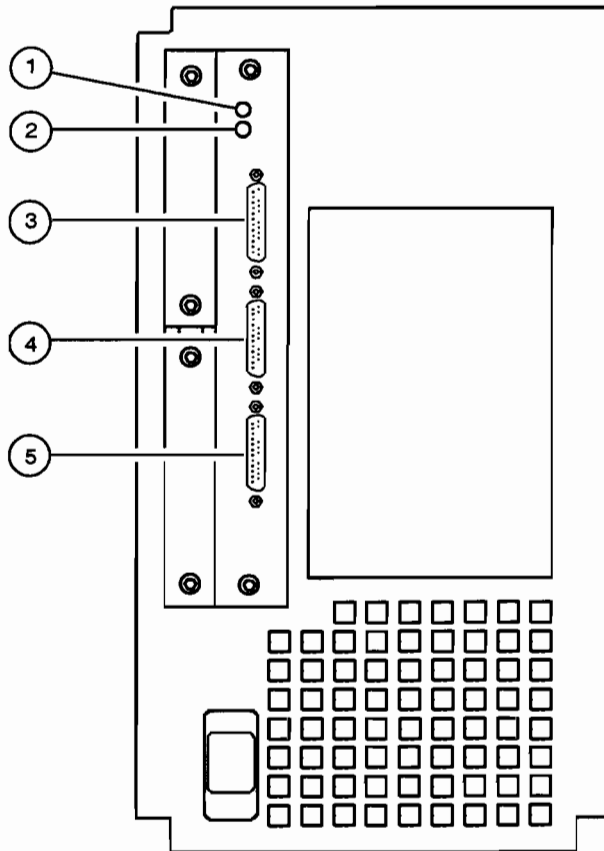

Figure 10-5. HP 9000 807S Rear Panel
- Figure 10-5 shows the HP 9000 807S.
For the HP 9000 807S, figure 10-5, number 1 is the MUX Error light. This light should normally be off. Number 2 is the SCSI Error light. This light should normally be off. Number 3 is the direct distribution cable connector. The cable provides ports 1-6. Number 4 is the connection for the available support modem (port 7). Number 5 is where the console terminal is connected (port 0).